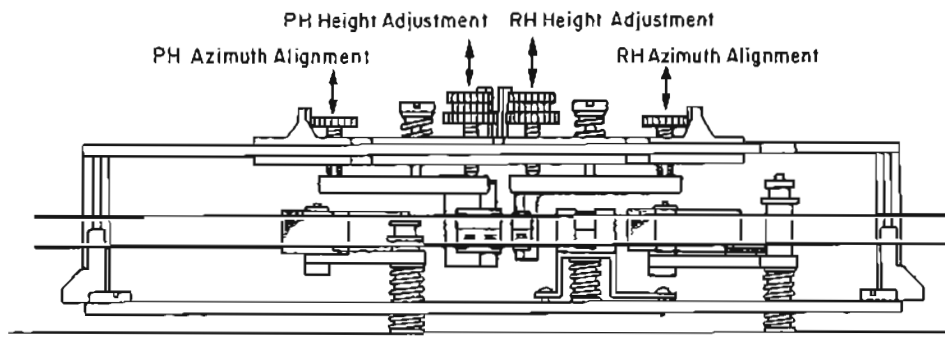

Fig. 2.16
(1) Playback Head Height Adjustment and Azimuth Alignment Refer to Fig. 2.16.
(2) Record Head Height Adjustment and Azimuth Alignment Refer to Figs. 2.16 and 2.17.